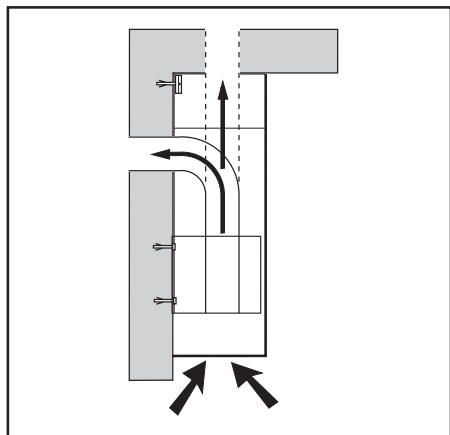

Fig.1
1. Decide where the ductwork will run between the hood and the outside (**Fig. 1**).